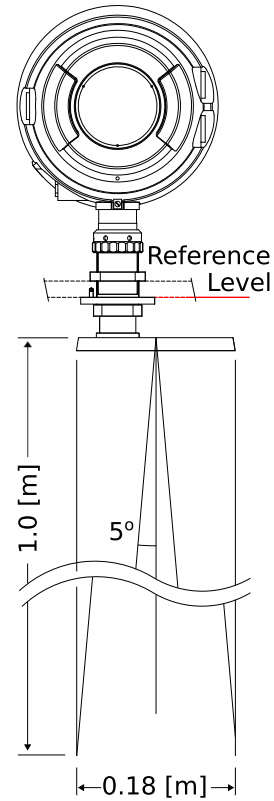

Figure 1.1: The 5° [deg] half top angle of the F08 antenna beam and the reference level for mounting height measurement.
- It is advised to choose a mounting position such that the WaveGuide radar beam is free of large reflecting obstacles (the beam of the F08 antenna has a 5° [deg] half top angle as shown in Fig. 1.1). The minimum horizontal distance between the radar and any obstacle in the beam's path should be at least 10% of the vertical distance between the radar and the obstacle. This does not only include horizontal objects in the beam's path but also vertical structures.
- The reference level for the mounting height of the radar is shown in Fig. 1.1.